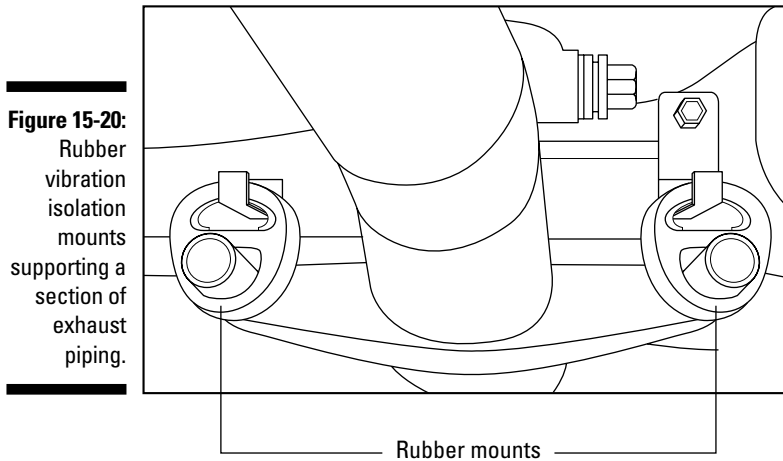

Figure 15-20:
- **Rubber vibration isolation mounts.** These mounts are used to provide dampening from road vibrations — to prevent the vibrations from cracking the exhaust system components. They are most commonly used at the *exhaust hangers*, the metal rods used to support the weight of the exhaust where the exhaust mounts to the chassis. Figure 15-20 illustrates a couple of rubber vibration isolation mounts supporting a section of exhaust piping. The rubber mounts are situated on either side of the pipe, hanging the pipe from the bottom of the car by thick hangers welded directly onto the pipes.